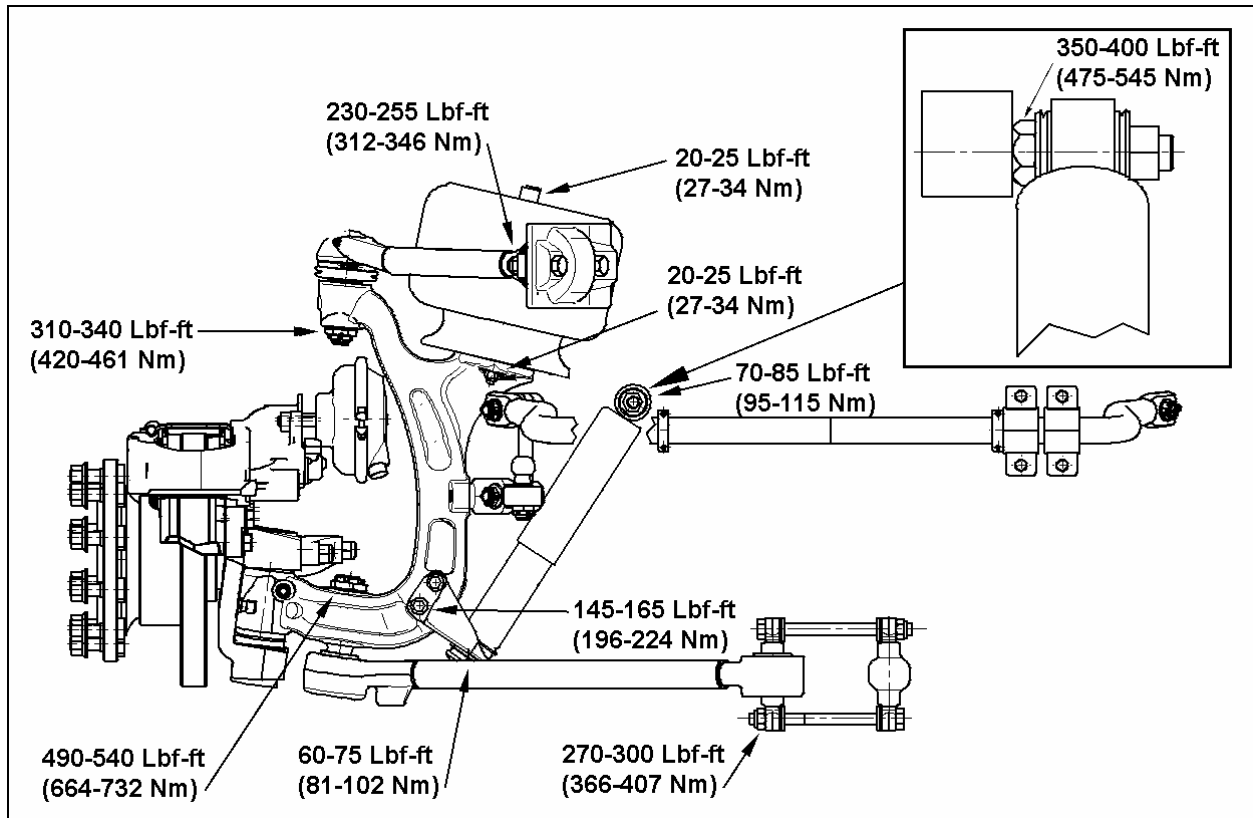

FIGURE 24: AIR SPRING AND SHOCK ABSORBER
- Torque replaced nuts as per figure 24.
5. Install the shock absorber as shown in figure 24 with the mounting stud protruding through the hole in the mounting bracket and the shock absorber eyes over the mounting pins. Install the outer washer.